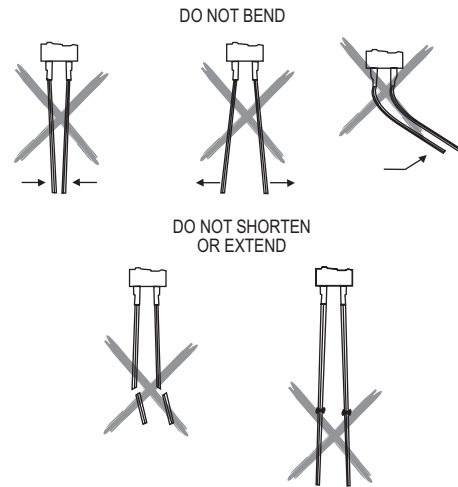

Figure 2: Fork protection
- The tines should not be bent, shortened, lengthened, or altered in any way (See Figure 2).